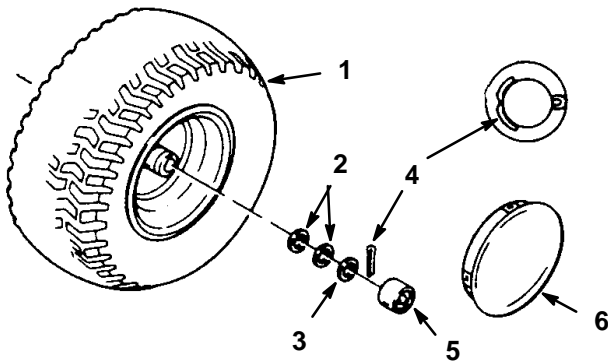

Figure 1
1. Slide wheel onto axle with valve stem in. (Fig. 1).
2. Wheel end play should be 0-.015" (0-.4 mm). Use shim washers (as required) and large OD flat washer for spacing on the axle. Insert cotter pin through the axle and bend the ends of the pin open (Fig. 1).
3. Push the dust cover (Fig. 1) onto the end of the axle so it snaps over washer.